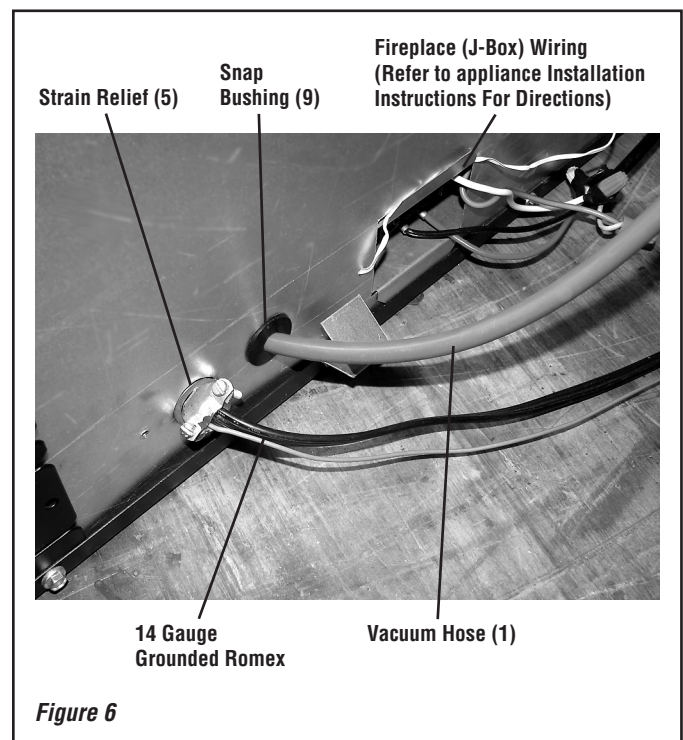

Figure 6
- Refer to **Figure 6** and remove the knockouts located where the strain relief (#5) and snap bushing (#9) are to be installed, at the lower right hand side.
- Install the snap bushing (#9) in the hole provided on the fireplace for the vacuum hose (refer to **Figure 6**).
- Route the vacuum hose (#1), taking caution to not kink and/or damage the hose (refer to **Figure 6**). Route the hose from the probe assembly (#11) location to the appliance control compartment, through the snap bushing previously installed. Ensure enough material is available at either end to allow hook up. Ensure the hose is safety plated throughout its run to prevent damage by framing nails and finish drywall screws. Secure the vacuum hose (#1) to the probe (#11) with the hose clamp (#8). Refer to **Figure 7**.
- Install the strain relief (#5) in the hole provided on the fireplace for the electrical wiring (refer to **Figure 6**).